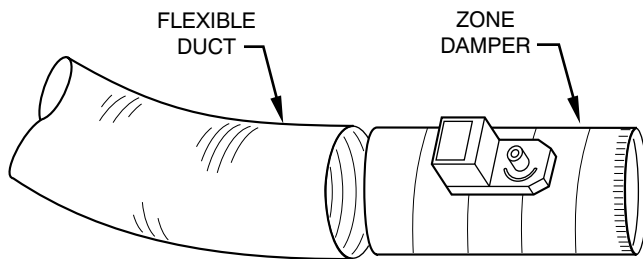

**Fig. 4 – Insulated Rectangular Metal Ductwork**
3. If dampers are applied in an unconditioned space, insulate them using 1- 1/2 inch to 2 inch insulation (See Fig. 4).